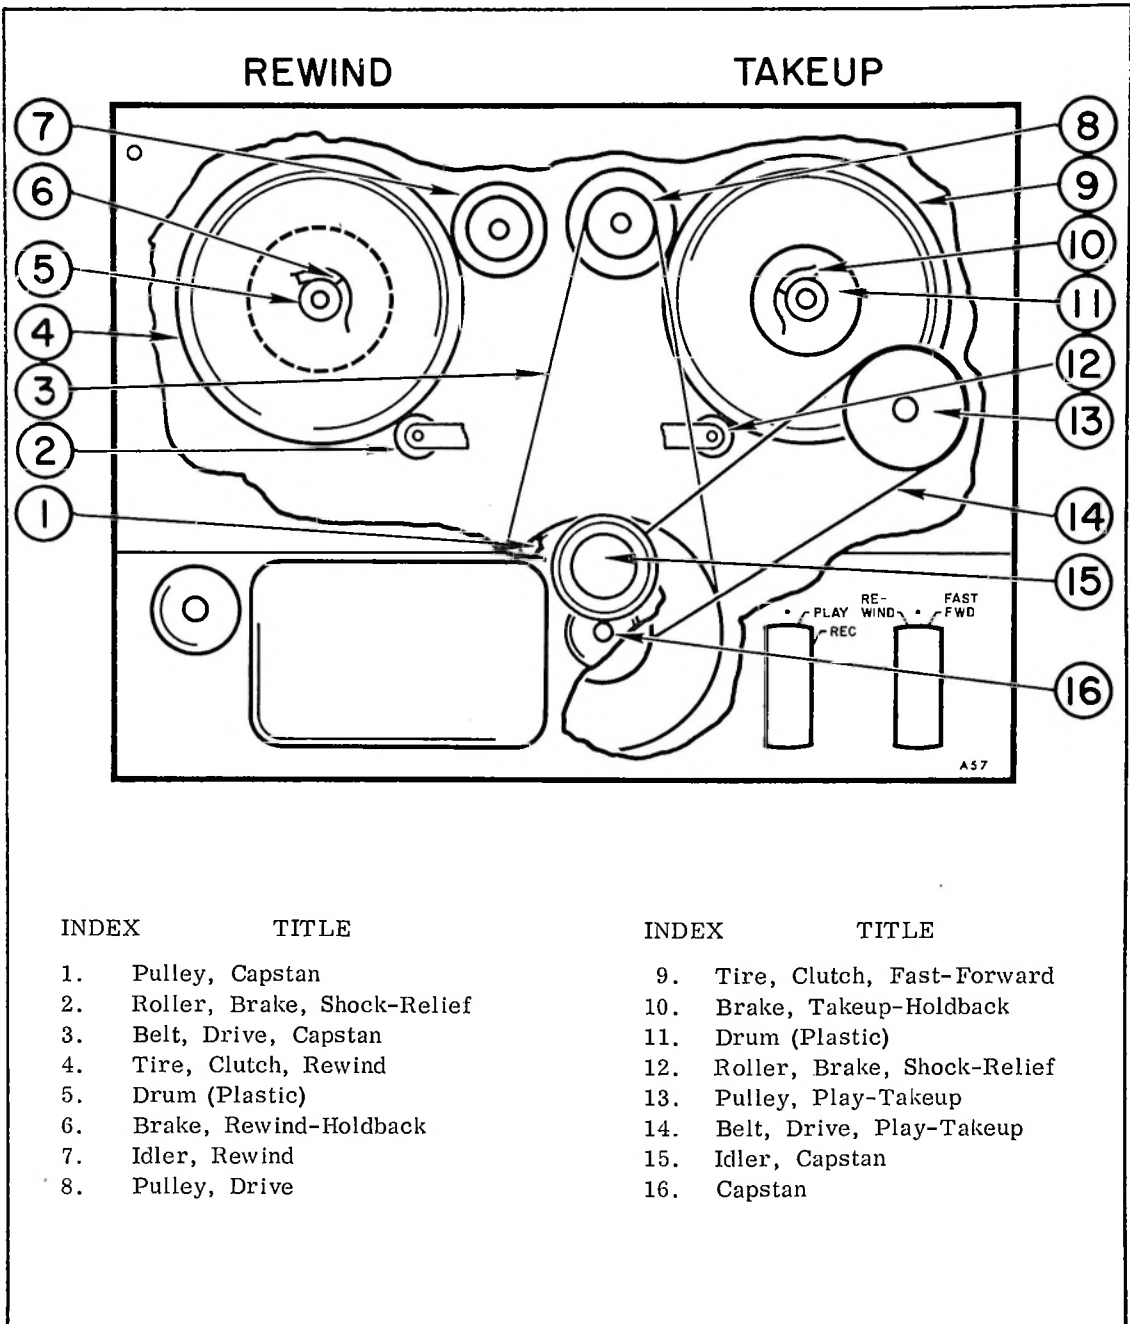

Figure 6-1. Transport Tape Drive
6.2 INTRODUCTION (See Figure 6-1)
6.4 Power is applied to the drive motor when the POWER switch is turned to ON. The capstan (16, Figure 6-1) is immediately driven by a nylon belt (3) between the motor pulley (8) and the capstan flywheel. A second belt (14), in a groove of the capstan flywheel, drives the play takeup pulley (13). The shock-relief brake rollers (2 and 12) are moved against the fast-forward and rewind rubber-tired clutches (4 and 9). Both turntables remain motionless, with the machine in standby condition.